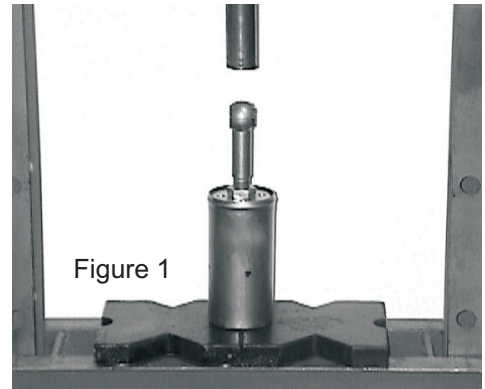
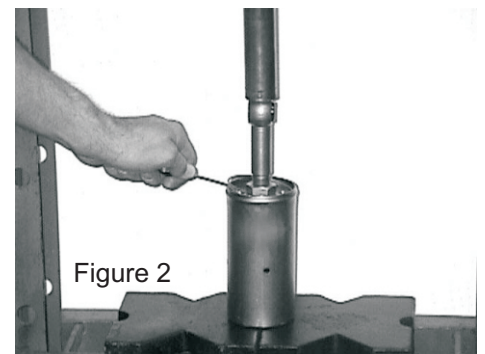

Figure 1
Figure 2
- To disassemble your shock with a hydraulic press, make a fixture to support the shock body as shown in figure 1. You must leave about 2" of space between the end of the ram and the top of the mount (see figure 1). Press straight down on the mount with the hydraulic ram, it only needs to be compressed about 1/4" to expose the wire ring. Remove the wire ring with a pick (see figure 2) and slowly release the hydraulic pressure. Separate the damper from the shock body and spring. You can also disassemble the shock using Progressive Suspension tool #32-5507. Follow the instructions enclosed with the tool.